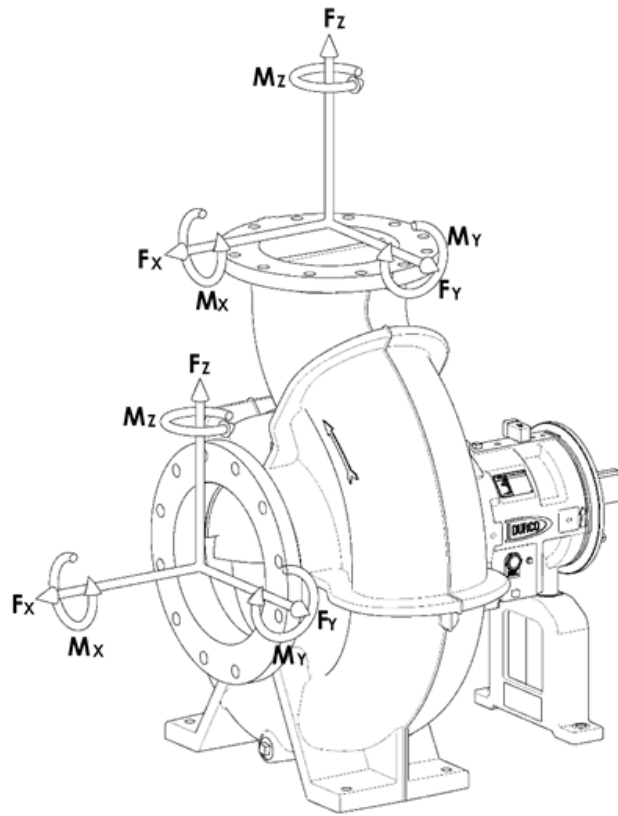

Figure 5: Coordinate system
6. Record the applied loads at the casing flanges according to the coordinate system found in Figure 5. The 12 forces and moments possible are F_{XSA} , F_{YSA} , F_{ZSA} , M_{XSA} , M_{YSA} , M_{ZSA} , F_{XDA} , F_{YDA} , F_{ZDA} , M_{XDA} , M_{YDA} , M_{ZDA} .